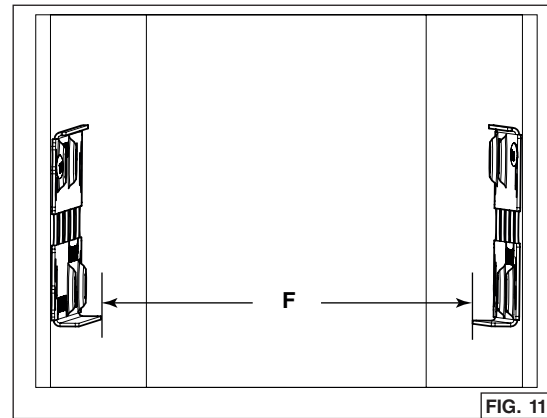

FIG. 11
7. Measure the distance between both bottom bracket edges (**F**) (FIG. 11). The table below shows the appropriate distance needed.